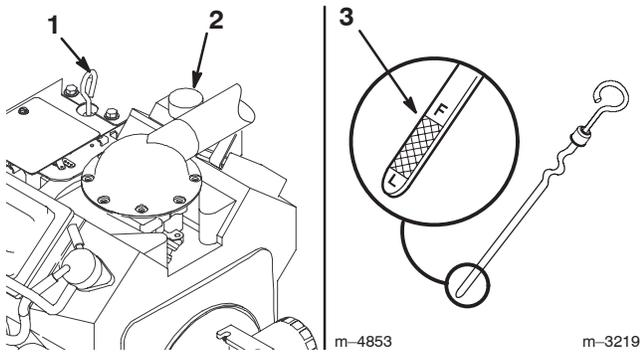

Figure 60
3. Pull the oil dipstick and wipe the metal end clean (Fig. 60).
4. Slide the oil dipstick fully into the filler tube (Fig. 60). Pull the dipstick out and look at the metal end. If oil level is low, slowly pour only enough oil into the filler tube to raise the level to the full mark.
5. Slowly pour approximately 80% of the specified oil, on page 36, into the fill opening (Fig. 60). Now check the oil level; refer to Checking Oil Level, page 36. Slowly add additional oil to bring to full mark on dipstick.